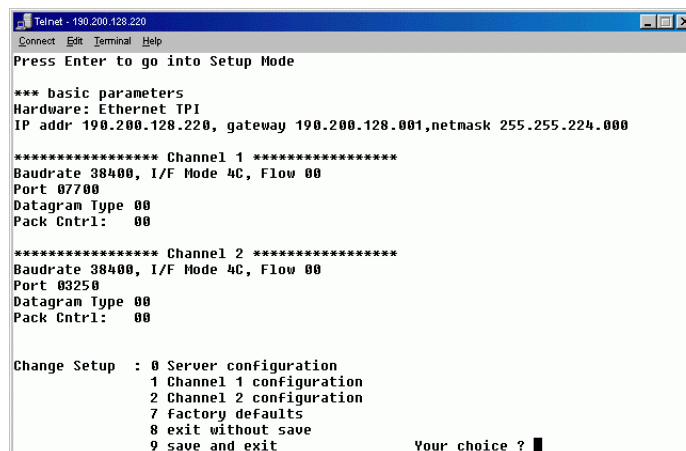

Figure 13: Telnet session
9. If you pressed [ENTER] within 5 seconds, then you should see the following screen (See Figure 13).
- You will be prompted to change the TELNET password, press [N] for the default of "No". This screen will now show the Setup Mode screen you saw previously in Figure 13.